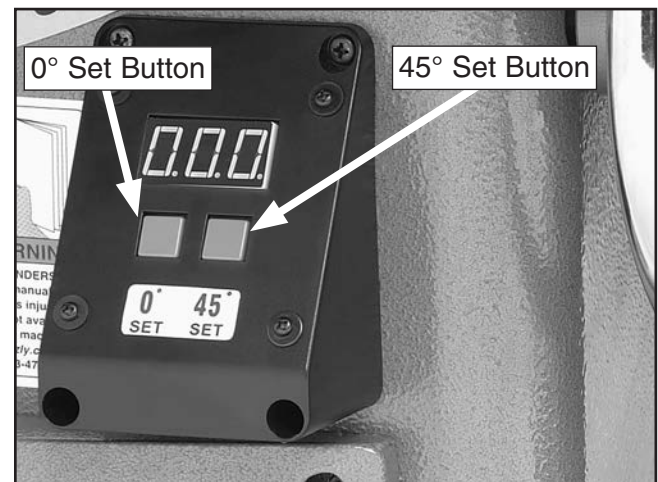

Figure 146. Digital readout.
2. Move the blade angle to 90° and press the 0° SET button (**Figure 146**) for several seconds until the readout displays 0.00, or move the blade angle to 45° and press the 45° SET button until the readout displays 45.0.